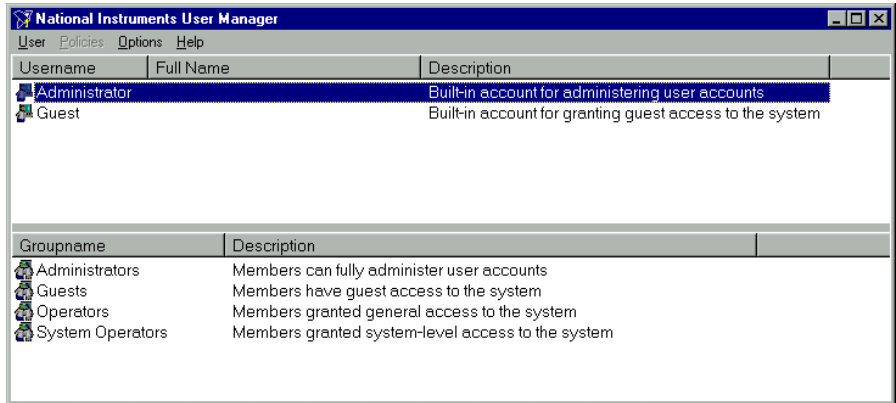

Figure 8. User Manager Dialog Box
1. Select **Options»User Manager** from the Lookout menu. You must be in edit mode for the User Manager item to appear in the **Options** menu. The **User Manager** dialog box appears as shown in Figure 8.